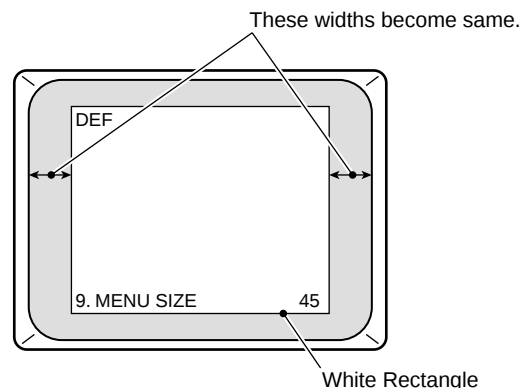

Fig. 4-6
- Adjust **MENU SIZE** by pressing the Increment Button (+) or the Decrement Button (-) so that the both right and left sides of the White Rectangle on the Monitor Screen become same width as shown in Fig. 4-6.